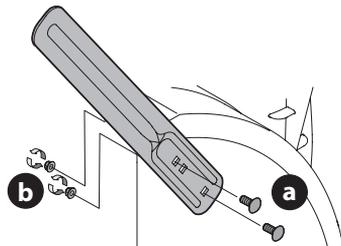

Figure 43
1. Remove two carriage bolts (a) and lock nuts (b) that secure each drift cutter, and remove them from the sides of auger housing (Figure 43).
2. Turn the drift cutters and position them as shown in Figure 43 to the outside of the auger housing.